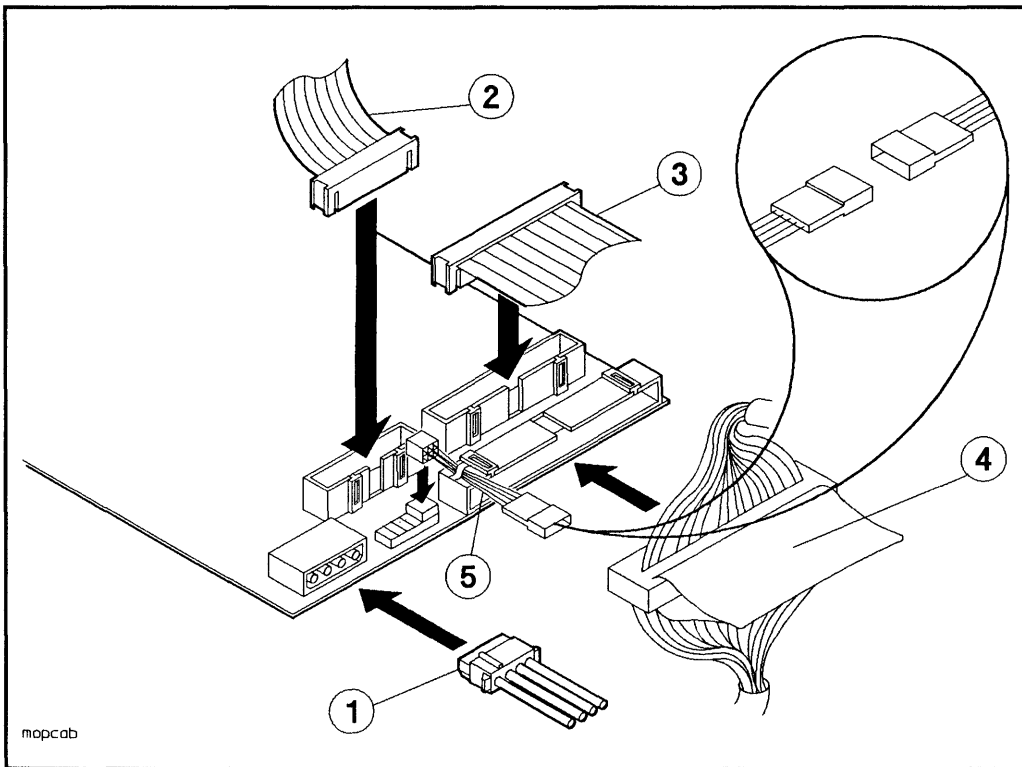

Figure 5-5. Connecting Cables to the Rewritable Optical Controller PCA
1. Connect the appropriate address cable to the SCSI address cable on the drive (see Figure 5-5). The address cables in the mass storage system are numbered according to slot number.
2. Connect the internal SCSI cable to the controller PCA (see Figure 5-5).